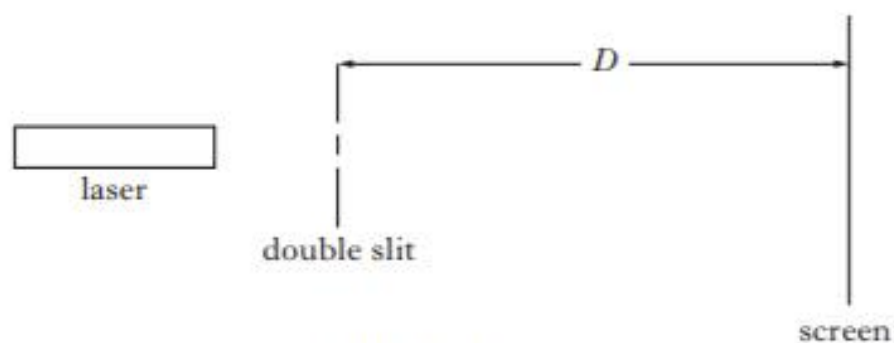

Figure 11A
11. A student uses laser light of wavelength of 529 nm to determine the separation of the slits in a Young's double slit arrangement as shown in Figure 11A.